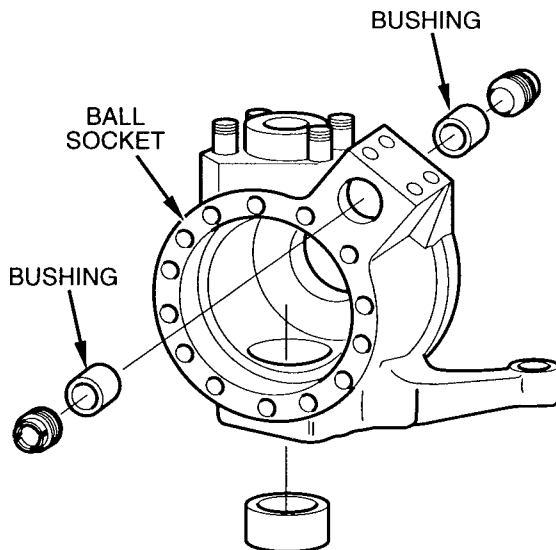

Figure 5 Camshaft Bushing Installation
- Ball socket (16)
- Brake spider (35)
- Skein (39)
12. Install spider (35) and skein (39) in same position as disassembly using ten bolts (49) and plain washers (50). Torque bolts (49) to 187 lb. ft. (253 N•m).
13. Install two bushings for the camshaft in ball socket (16). (See Figure 5).